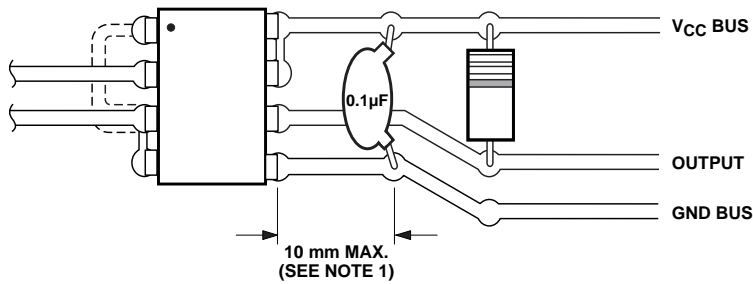

Figure 15. Recommended printed circuit board layout.
1. Bypassing of the power supply line is required with a 0.1 μ F ceramic disc capacitor adjacent to each optocoupler, as illustrated in Figure 15. Total lead length between both ends of the capacitor and the isolator pins should not exceed 10 mm.
assumes that good board layout procedures were followed to reduce the effective input/ output capacitance as shown in Figure 15.